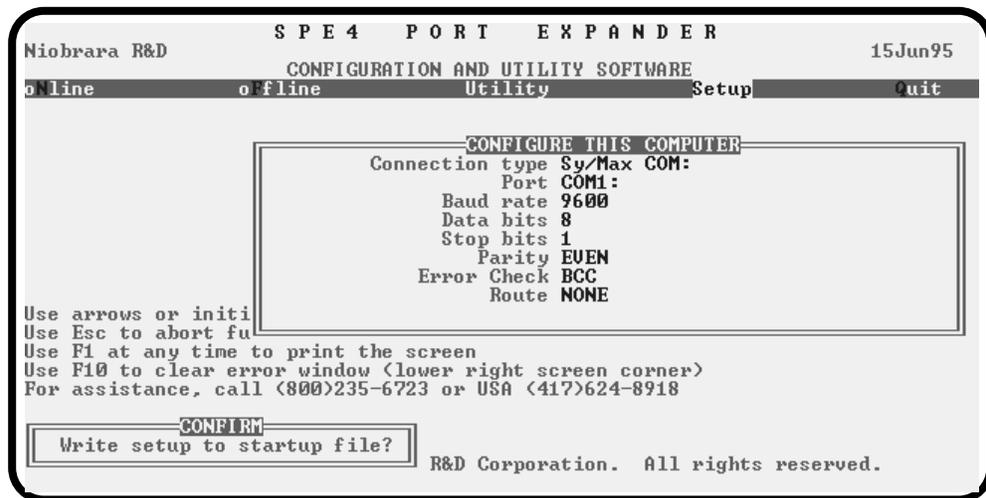

Figure 2-4 SY/MAX Setup Screen
- Press S for SY/MAX Setup. The SY/MAX setup window should appear as in Figure 2-4.